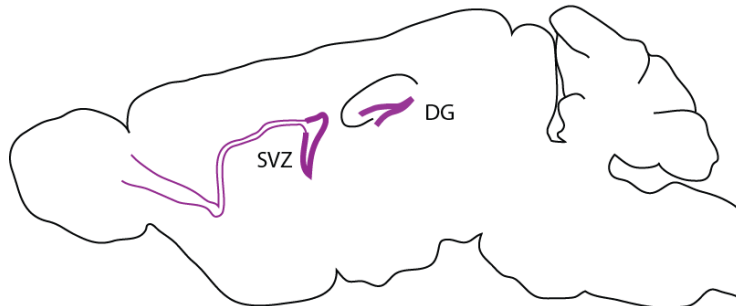

Figure 1. Overview of neurogenic niches in coronal and sagittal brain sections (SVZ: subventricular zone; DG: dentate gyrus)
1. For coronal vibratome sections (see Figure 1)
2. For sagittal brain sections (see Figure 1)